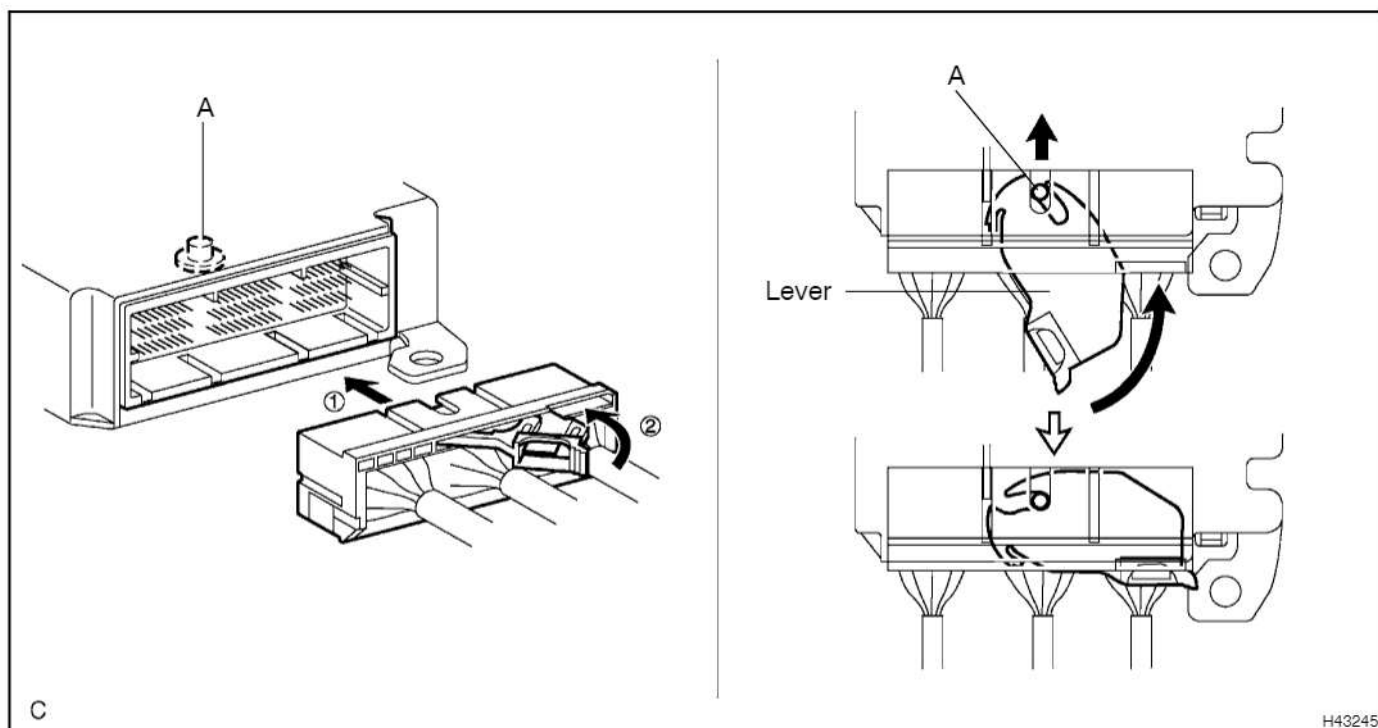

Fig.1
- (b) When the vehicle is involved in a frontal collision in the hatched area (Fig.1) and the shock is larger than the predetermined level, the SRS is activated automatically. The safing sensor is designed to go on at a smaller deceleration rate than the airbag sensor. As illustrated in Fig.2, ignition is caused when current flows to the squib, which happens when the safing sensor and the deceleration sensor go on simultaneously. When a deceleration force acts on the sensors, 2 squibs in the driver airbag and front passenger airbag ignite and generate gas. The gas discharging into the driver airbag and front passenger airbag rapidly increases the pressure inside the bags, breaking the horn button assy and instrument panel. The deployment of the bags then ends, and the bags deflate as the gas is discharged through discharge holes at the bag's rear or side.